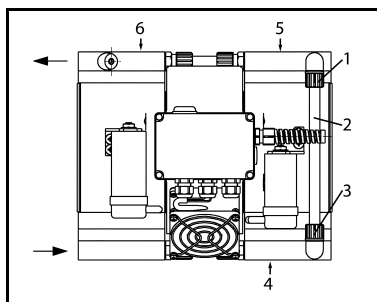
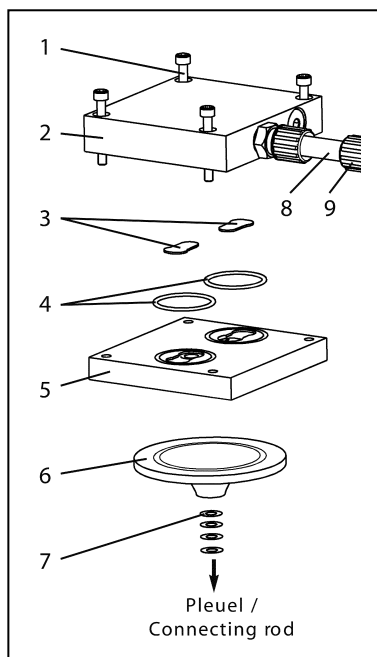

Fig. 19: Pneumatic connection between pump heads 2 and 3 (Example N 940.5 APE)
Fig. 20: Replacing diaphragm and valve plates (3. and 4. pump head)
i Second pump head: See position (4) in Fig. 19.
Additional step: At the pneumatic connection between pump heads 2 and 3 (2, Fig. 19) use pliers to turn union nuts (1) and (3) counterclockwise, thereby loosening them.
1. At the pneumatic connections (2, Fig. 19) between the second (4) and third (5) pump head: Use pliers to loosen union nuts (1) and (3) by turning them counterclockwise.
2. At the third pump head (5, Fig. 19) mark the position of head plate (2, Fig. 20), intermediate plate (5) and pump housing relative to each other by a drawing line with a felt-tip pen. This helps to ensure proper assembly.
3. At the third pump head unscrew the four screws (1, Fig. 20) and remove the head plate (2). Intermediate plate (5) is visible.
4. Take off intermediate plate (5) from pump housing.
1. Remove the two valve plates (3, Fig. 20), the two O-rings (4) from the intermediate plate (5).
5. Lay the two new O-rings (4, Fig. 20) in the seats of intermediate plate (5).
1. Place the intermediate plate (5) with valve plates (3) and O-rings (4) on the pump housing in accordance with the felt-tip pen marking.
2. Place the head plate (2) on the intermediate plate (5) in accordance with the felt-tip pen marking. In doing so, pull the pneumatic connections (2, Fig. 19) onto the two screw fittings in the head plate of the second pump head (4) and the third pump head (5). Do not yet tighten the union nuts (1) and (3).
3. Make sure that the pump housing, intermediate plate (5, Fig. 20), and head plate (2) are flush with each other.
4. Tighten the four screws (1) diagonally hand-tight.
5. Use pliers to securely tighten (turn in clockwise direction) the two union nuts (**1**, Fig. 19) and (**3**) at the pneumatic connection between pump heads 2 and 3.
i Fourth pump head: See position (**6**) in Fig. 19.
Then use pliers to securely tighten (turn in clockwise direction) the union nuts (**9**, Fig. 20) at the two pneumatic connections (**8**) between pump heads 3 and 4.